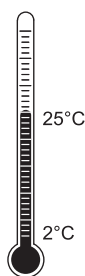

*Figure 1. Arranging Bottles or Tubes in the Rotor.
2. Load the filled containers symmetrically into the rotor. (Refer to TUBES AND BOTTLES on page 6 for information about containers.) If fewer than six tubes are being run, they must be arranged symmetrically in the rotor (see Figure 1). Opposing tubes must be filled to the same level with liquid of the same density (within 10 grams).